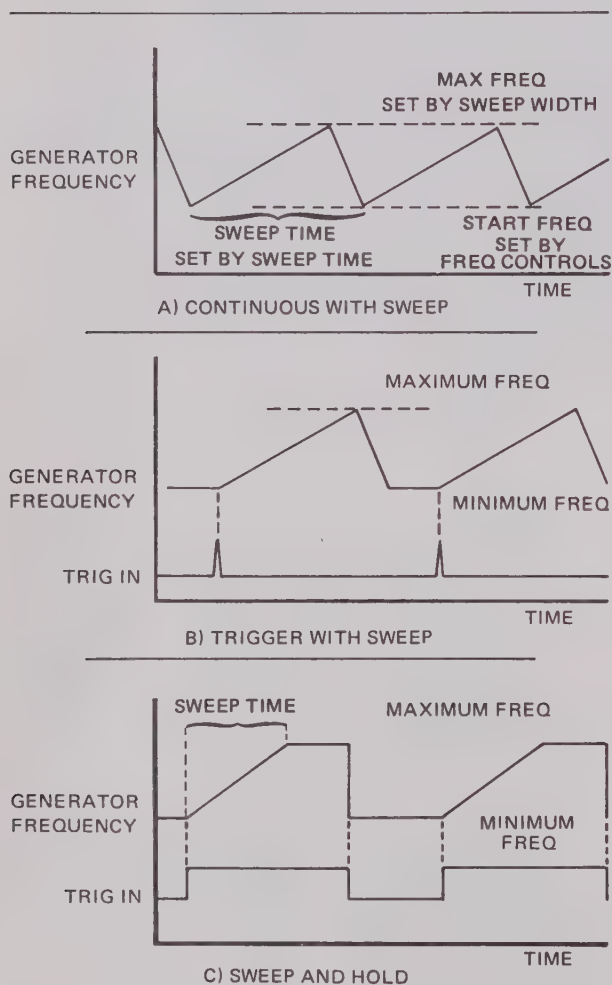

Figure 2-3. Sweep Modes
- d. **CONT SWP Mode** — The main generator operates continuously and repetitively sweeps from the minimum to maximum frequency as determined by the sweep controls. See Figure 2-3. (In this mode as in the following two sweep modes, SWP/GCV OUT becomes the generator control voltage (GCV) which is proportional to the instantaneous frequency of the generator.)
is applied. The frequency then sweeps to the maximum frequency as determined by SWEEP WIDTH and then returns to the low frequency until another trigger is applied. See Figure 2-3.
- f. **SWP & HOLD Mode** — When gated, the generator sweeps to the high frequency and remains at the high frequency for the duration of the gate signal. When the gate falls, the generator returns to the low frequency. See Figure 2-3.
The operation of the three sweep modes (continuous with sweep, triggered sweep, and sweep and hold) can be visualized by the graphs in Figure 2-3. Operation consists of proper terminations. Setting the low and high end frequencies, sweep time, signal amplitude and sweep mode. All are covered in the following example.